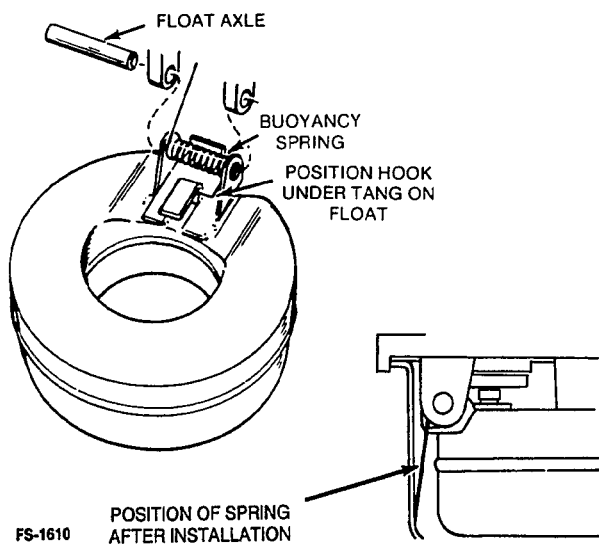

FIGURE 6-21. FLOAT INSTALLATION
- Install the needle valve and seat, fuel bowl gasket, and float assembly. Make sure that the float moves freely without binding (see Figure 6-21), and that all clips and springs are placed correctly.